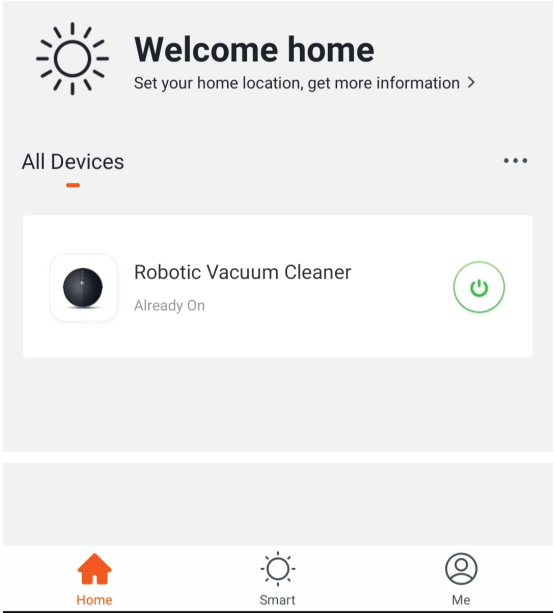

Fig 16
Step 11: You can now start controlling your device with the App. Tap the device name on the home page to enter the controls and features of the device. (Ref Fig 16)